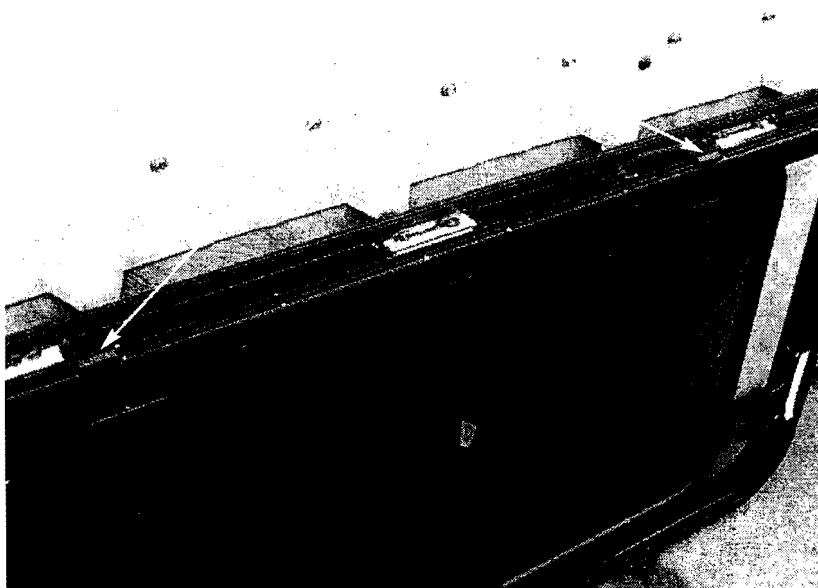

FIGURE 7
6. Confirm the spacers (#11) are installed at the bottom of the window. If none are found, Install the spacers positioned adjacent to the outer latch striker backing plates and toward the center of the window. **Figure 7**